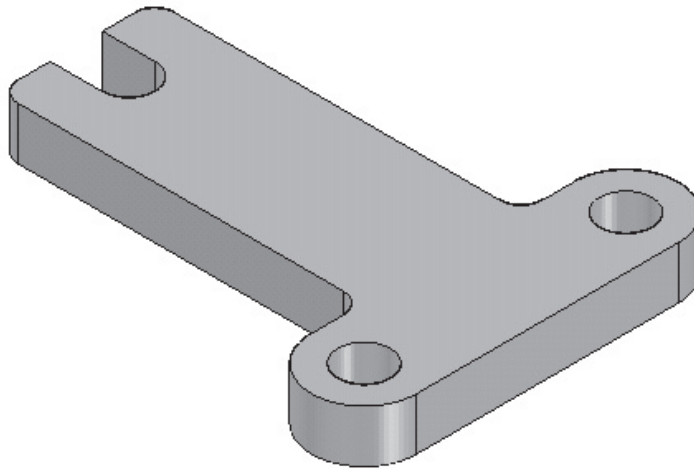

Figure 4-49 Base feature of the model
- Create the base feature with two holes on the top plane, refer to Figure 4-49.
6. Choose **Finish** and then choose **Cancel** from the ribbon bar. The base feature of the model is shown in Figure 4-49.